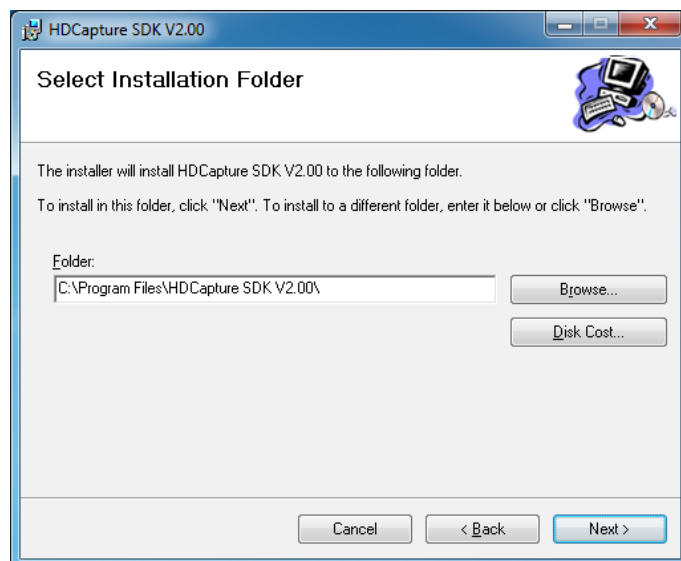

Figure 1-8: Select Installation Folder
Step 4: Select a folder for HDCapture installation in **Figure 1-8**. Click **Next** to continue.